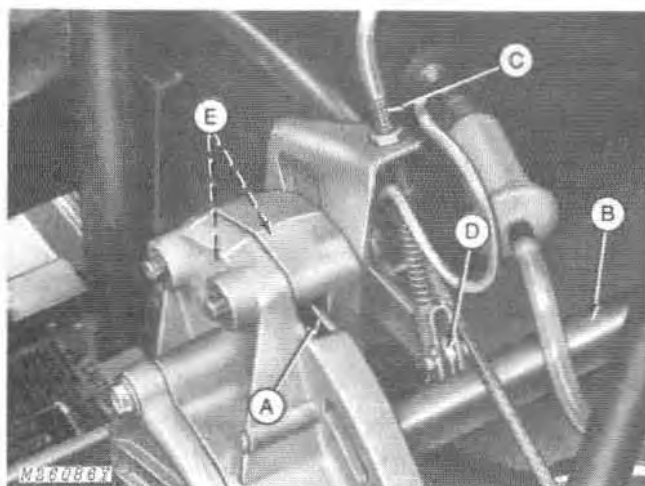

Fig. 5-Mechanical Disk Brake
The mechanical disk brake (A, Fig. 5) operates on the drive shaft (B) and is actuated by the brake cable (C). When the brake is applied, the cam on the brake arm (D) moves two pins in against the brake puck (E). The puck moves the brake disk (A) against a second puck for braking.